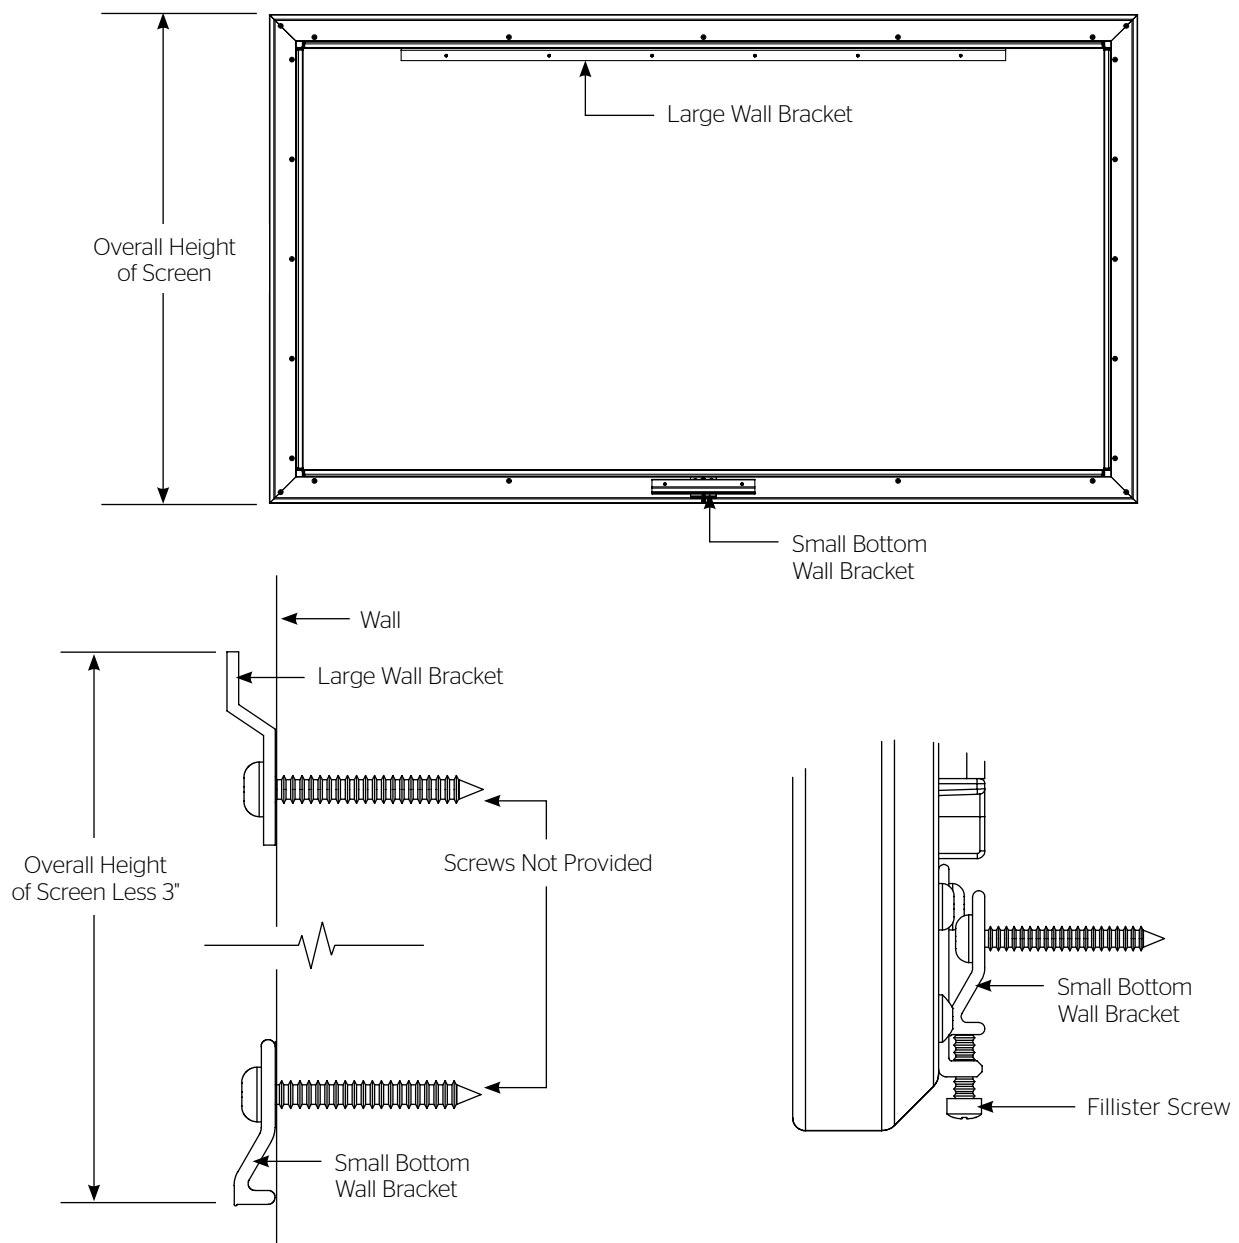

Figure 8 – Screens Under 104" in Viewing Width
1. Secure the large top wall bracket to wall studs at the desired height. Make sure the bracket is level. The top of the screen will be 2-1/4" above the top of the edge of this wall bracket when mounted. You will need at least a 3" clearance above the bracket to hang the screen (Figure 8).
2. To install the small bottom wall bracket, you must measure the overall height of the screen and subtract 3". Find the center point of the top wall bracket. Using your screen height minus 3", measure down from the top edge of the top wall bracket and mark the wall. This will be the center point of the bottom edge of the bottom wall bracket. Level the bottom wall bracket and mark the wall for the two screw holes in this bracket (Figure 8).
5. To secure your screen against wall, locate the fillister screw in the bottom frame bracket. Tighten the screw until it touches the bottom wall bracket, then rotate two more turns (Figure 8).